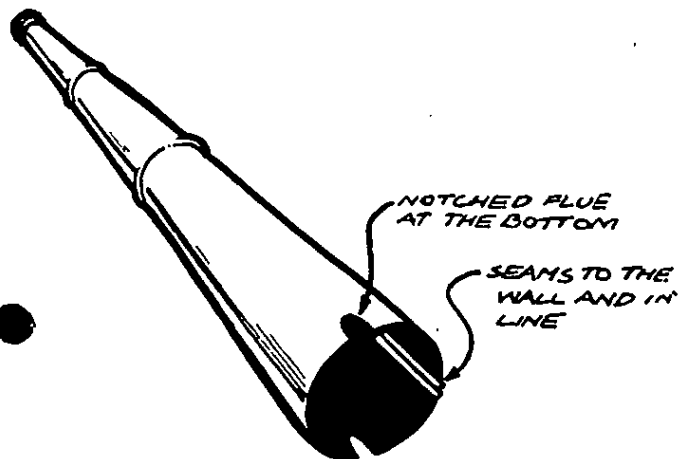

FIGURE 15
2.1.3 Assemble the two Flue Sections and fit the notched Flue Section to the lower (swaged) end, Figure 15. All flue seams should be in line. The bottom flue is notched to accommodate the Damper.